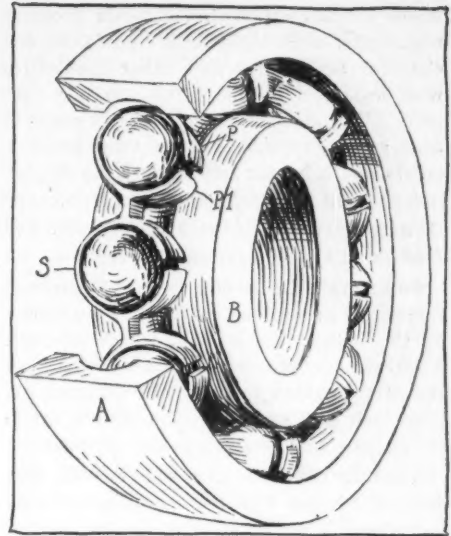

FIG. 32—HESS-BRIGHT BEARING
**Hess-Bright Mfg. Co.**—The cage type of Hess-Bright bearing, illustrated in Fig. 32, has the balls contained between concentric ring races A and B and employs a one-piece separator S, which is a bronze casting with pockets milled out to a slightly larger diameter than the balls. This separator is inserted after the balls are in place and the projecting prongs P and P1 are bent over in a die so that each ball is practically enclosed. As the illustration shows, the separator is one-piece without rivets of any nature.